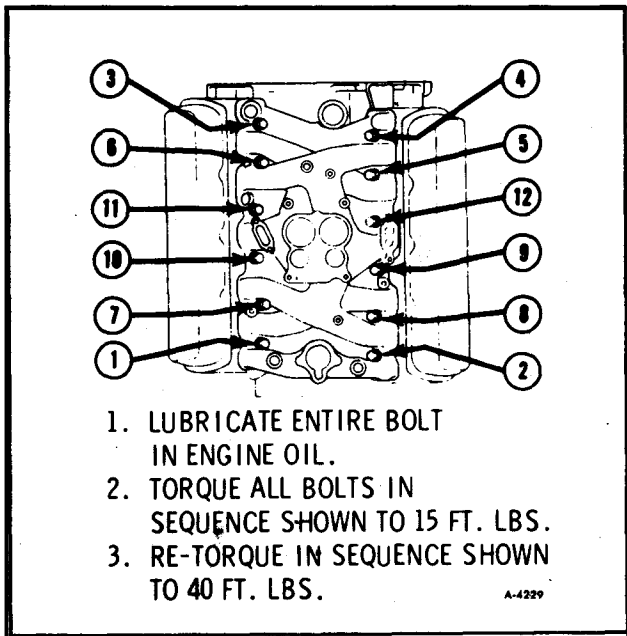

Figure 16—Intake Manifold Torque Sequence
3. Install intake manifold. Lubricate bolts entirely with engine oil, install and torque to 15 ft. lbs. in sequence (figure 16). Retorque in sequence to 40 ft. lbs.